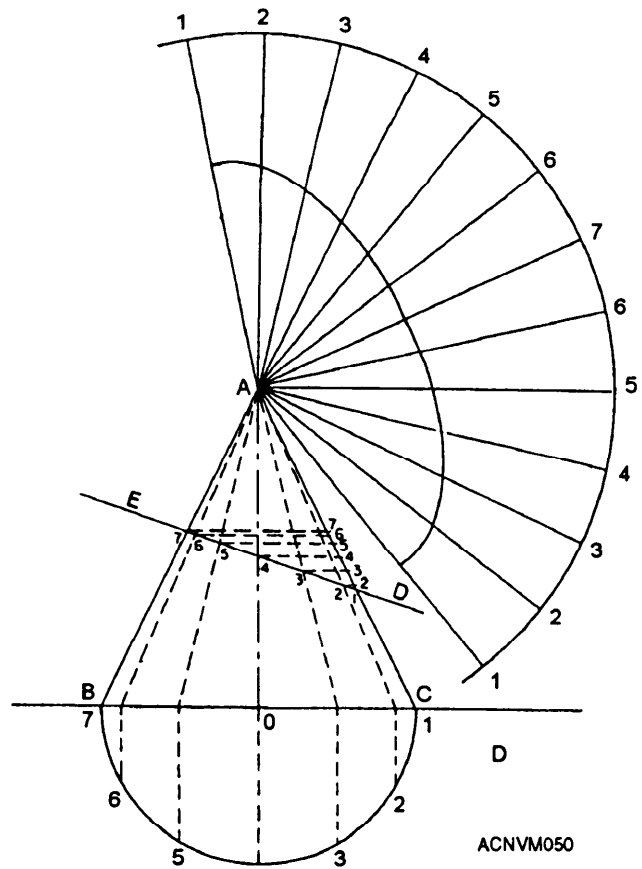

Figure 12-50.—Development of a cone cut at any angle.
To develop a pattern for a cone cut at any angle, you need merely to elaborate the development of the pattern for a frustum. Such a pattern is shown in figure 12-50.
1. Draw a cone with line ED cutting the cone at the required angle, as shown in figure 12-50.
4. Number the points of intersection on line DE, as shown in figure 12-50.
7. Set the dividers equal to the distance of the step-offs on the half-plan and step off twice as many spaces on the arc as on the half-plan. Number the step-offs 1 to 7 and back to 1, as shown in figure 12-50.